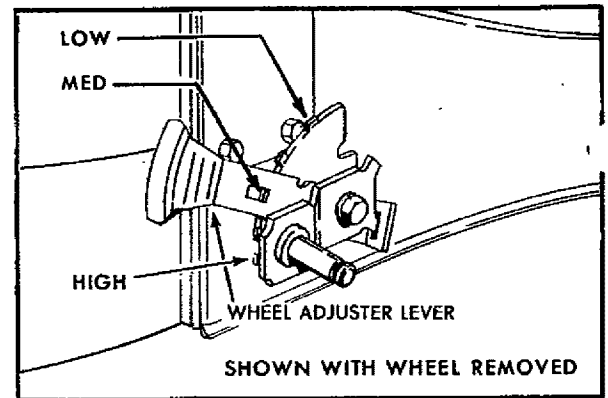
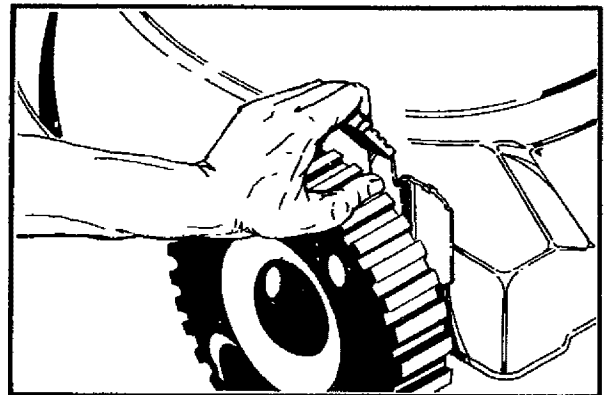

FIG. 7
FIG. 8
1. The wheel adjusters give you five (5) different cutting positions. Medium cut is the best for most lawns.
2. High cut is approximately 3 5/8", medium cut is approximately 2 1/2", and low cut is approximately 1 3/8". There are two other positions. Pick the position which suits your lawn (See Fig. 7).
3. The wheel adjusters on your lawn mower can be easily adjusted as shown in Fig. 8. To change the height of cut, squeeze adjuster lever toward the wheel, moving up or down to selected height. Be sure all wheels are in the same setting (See Fig. 7).